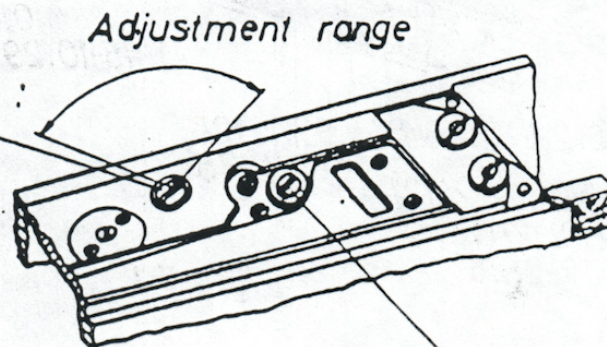
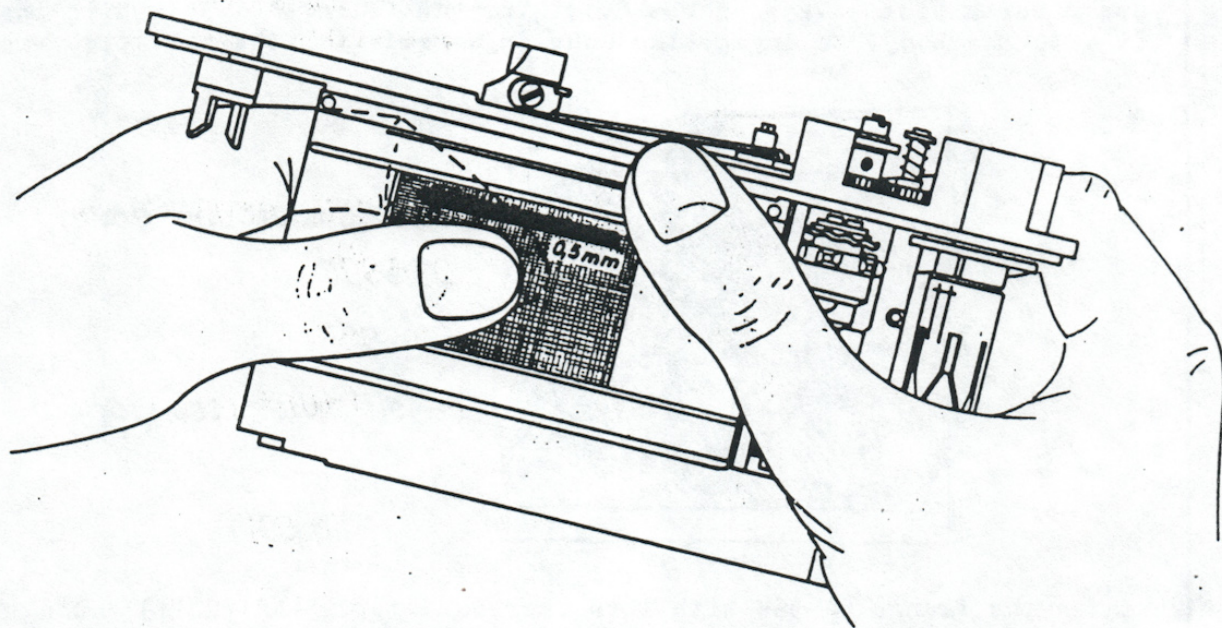

Fig. 7.1
Fig. 8.1
If this distance needs correction, adjust the setting screw 15-10.21-6 of the first shutter blind brake ( see fig. 7.1 ) by turning to the left or right in small stages with the 4 mm dia. screw driver. This must be done with the Leica shutter as described. Carry on until the blind runs past the frame edge by the required 1 to 2 mm. Check after every adjustment by releasing the first shutter blind.
Tension the Leica shutter. Set the shutter speed dial to  $1/50$  (4) second. Press the shutter release button. When the shutter has run down, it should still be possible to pull the second blind with the thumb and index finger through 0.5 mm in the direction of its travel (see fig. 8.1). If any adjustment is required, turn the setting screw 15-10.21-7 of the second shutter blind brake (see fig. 7.1) to the left or right with the 4 mm dia. screw driver until the above movement is as specified. Check after every adjustment of the setting screw by pulling on the second shutter blind as described above.